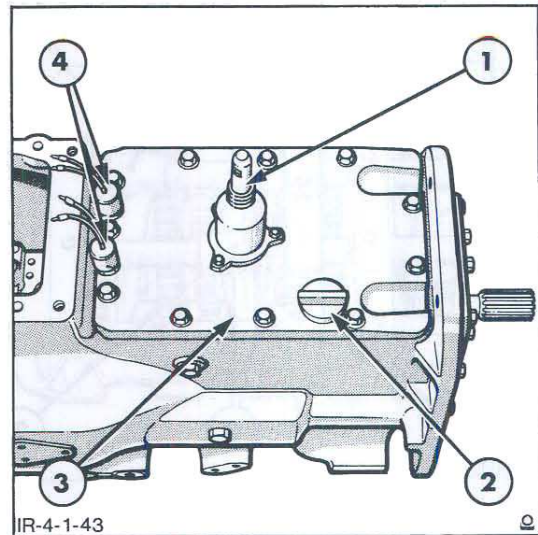

Figure 44
2. Ensure the gearshift lever is in neutral and remove the cover plate retaining bolts then remove the cover plate and gasket, Figure 44.